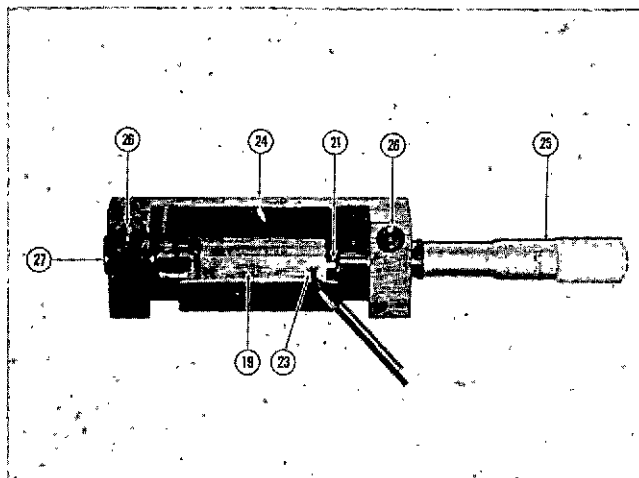

Fig. 1-1-39, V40176. Tool bit adjustment
6. Loosen set screw (Detail 23) in back end of tool bit and push adjustable set pin (Detail 21) all the way in. Lock set screw. Fig. 1-1-39.
8. Place tool bit (Detail 19) in tool bit gauge as shown in Fig. 1-1-39 and hold firmly against stop and hardened pad (Detail 27).